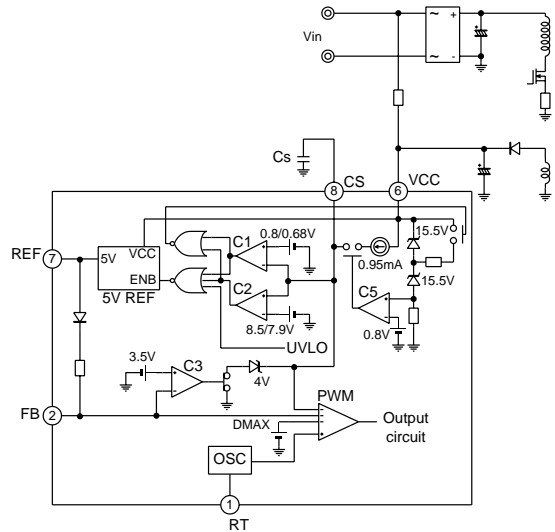
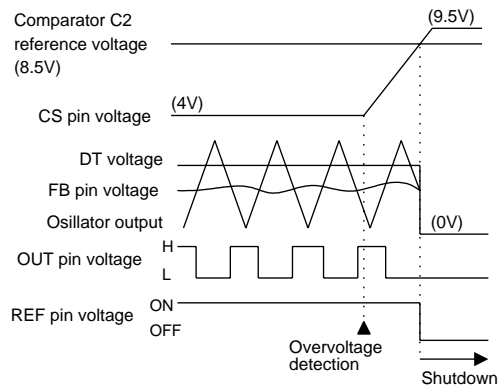

Fig. 16 Overvoltage shutdown circuit
Fig. 17 Overvoltage shutdown timing chart
The IC contains a Vcc overvoltage protection circuit to protect the IC from damage by overvoltage. Figure 16 shows the overvoltage protection circuit. Figure 17 is a timing chart that illustrates overvoltage protection operations. Overvoltage is detected if the supply voltage Vcc rises to  $31.8\text{V}$  ( $I_{cc}=14\text{mA}$ ) or more and current flows in the built-in zener diode. The output of comparator C5 then goes high and the constant current source ( $0.95\text{mA}$ ) raises the CS pin voltage. When the CS pin voltage exceeds  $8.5\text{V}$ , the output of comparator C2 goes high to turn off the  $5\text{V}$  REF circuit. The IC then enters the latched mode and the IC output is put in the off (low voltage) state. When latched mode, the IC current consumption is  $45\mu\text{A}$  (typ) ( $V_{cc}=10\text{V}$ ). This current must be supplied through the startup resistor. The overvoltage shutdown operation can be reset by lowering the supply voltage to below  $9.0\text{V}$  or forcing the CS pin voltage below  $7.9\text{V}$ . (When you want to enable Vcc overvoltage shutdown at a desired voltage, see item 6 in "Design advice.")